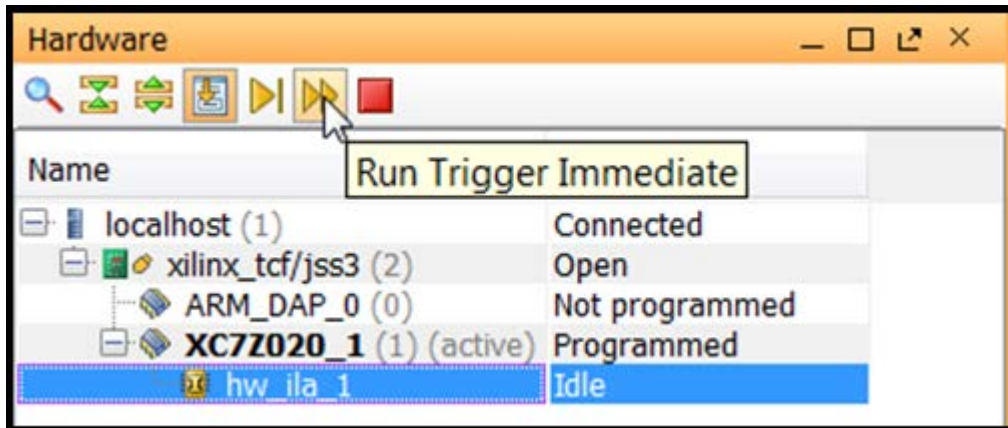

Figure 69: Run Trigger Immediate on hw_ila_1
- First, ensure the ILA core is alive and capturing data. To do this, first select the hw_ila_1 core. Then, on the Hardware window toolbar, click the **Run Trigger Immediate** button, as shown in Figure 69.